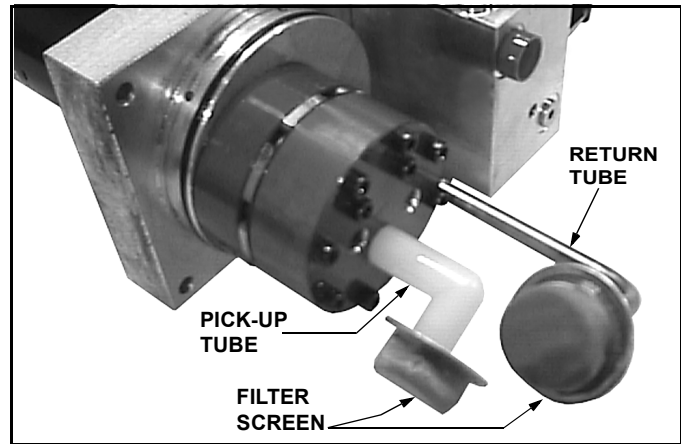

Figure 2-7
10. Loosen the band clamp, which holds the reservoir to the pump assembly. Pull and twist the reservoir until it separates from the pump assembly. Be careful not to damage the filter screen (See Figure 2-7).
11. Note the position of the reservoir oil pick-up tube and be sure the tube is in the same position when the filter is removed and installed (See Figure 2-7).
12. Pull the filter screens off the return and suction tubes (hold it by the metal cover, not the screen) and clean. Blow dry with low pressure air from the inside (See Figure 2-7).
14. Visually check that the pickup tube and filter face down (See Figure 2-7). If not rotate the pickup tube until the tube and filter face down.